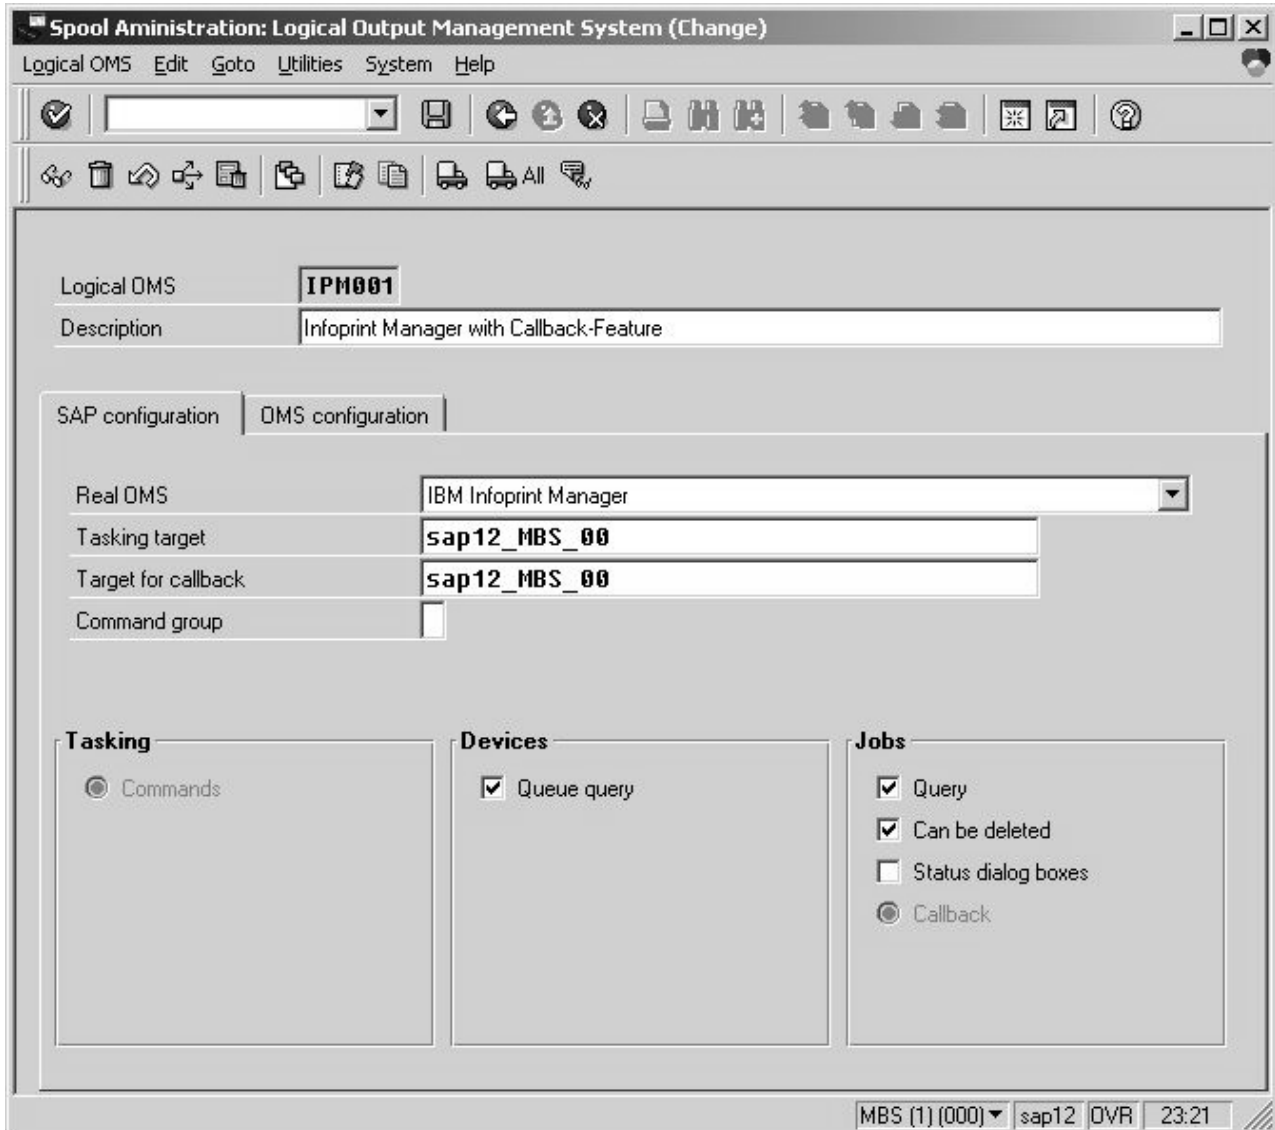
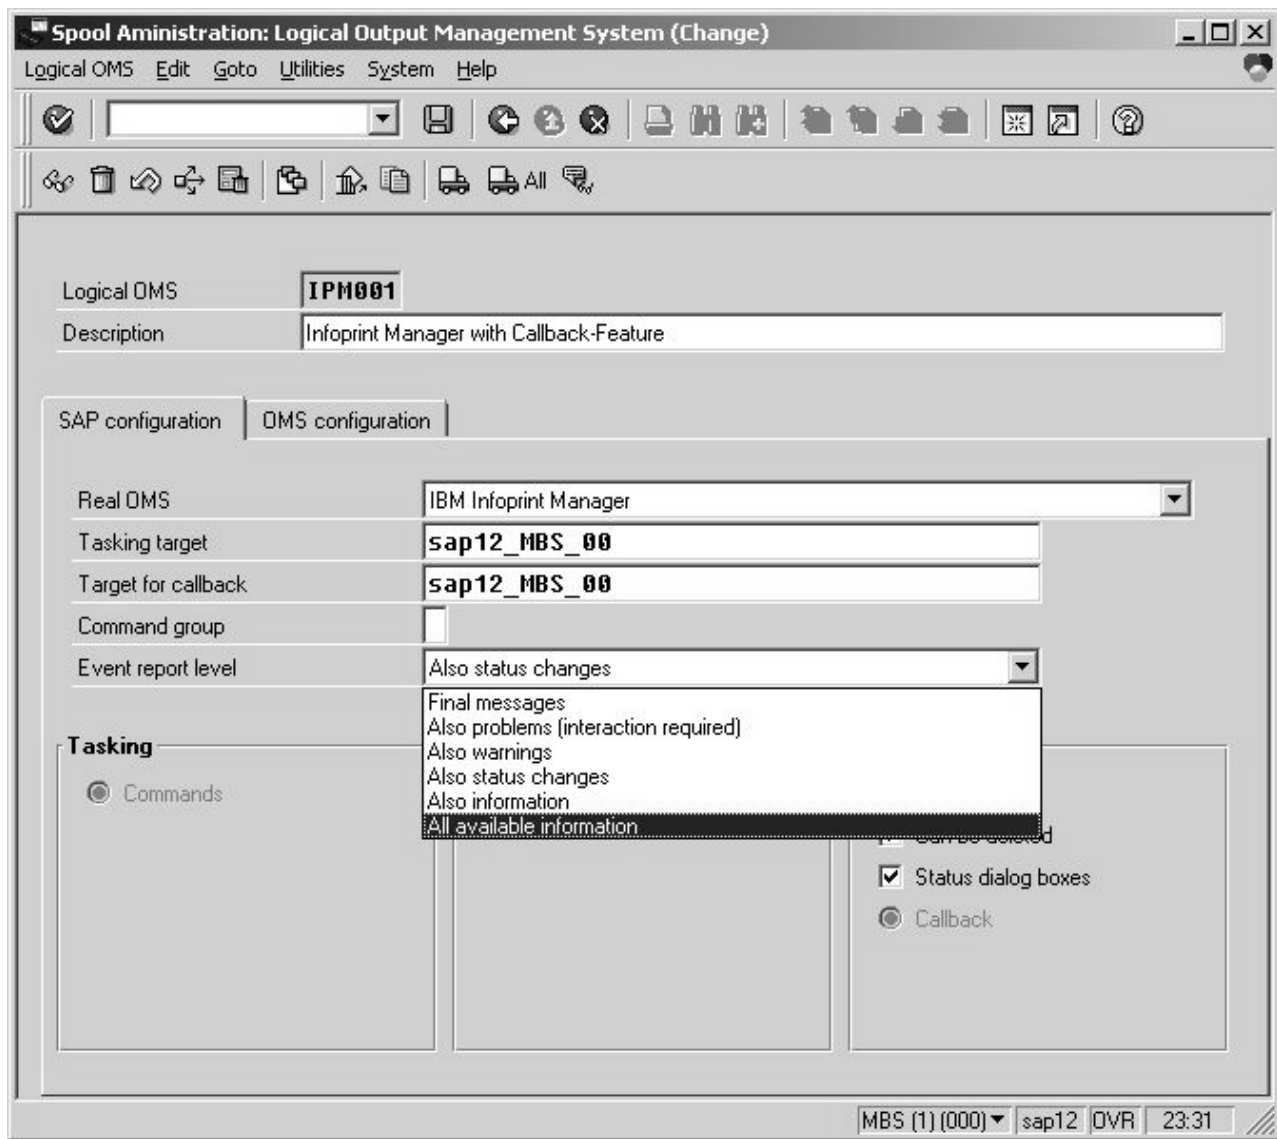

Figure 8. LOMS (Change) window: Setting Tasking Target and the Callback Target
Figure 10. LOMS (Change) window: Setting the Events Report Level
5. From the **Spool Admin.: Logical Output Management (Change)** window on the **SAP Configuration** tab (see Figure 8 on page 36),
- Click on the **Extended config.** (photo film with two cards superimposed on top) icon (seventh from left on the second toolbar line in Figure 8 on page 36) and specify a value for the **Event report level** field in the **SAP configuration** pane (see Figure 10 on page 38).
If you don't know what values you can specify for these variables, you can refer to the dropdown list for the **Callback target** field from the **Spool Admin.: Change Logical Output Management System** window (for an example, see Figure 8 on page 36 and 5 on page 35 of "Defining a Logical Output Management system" on page 34).